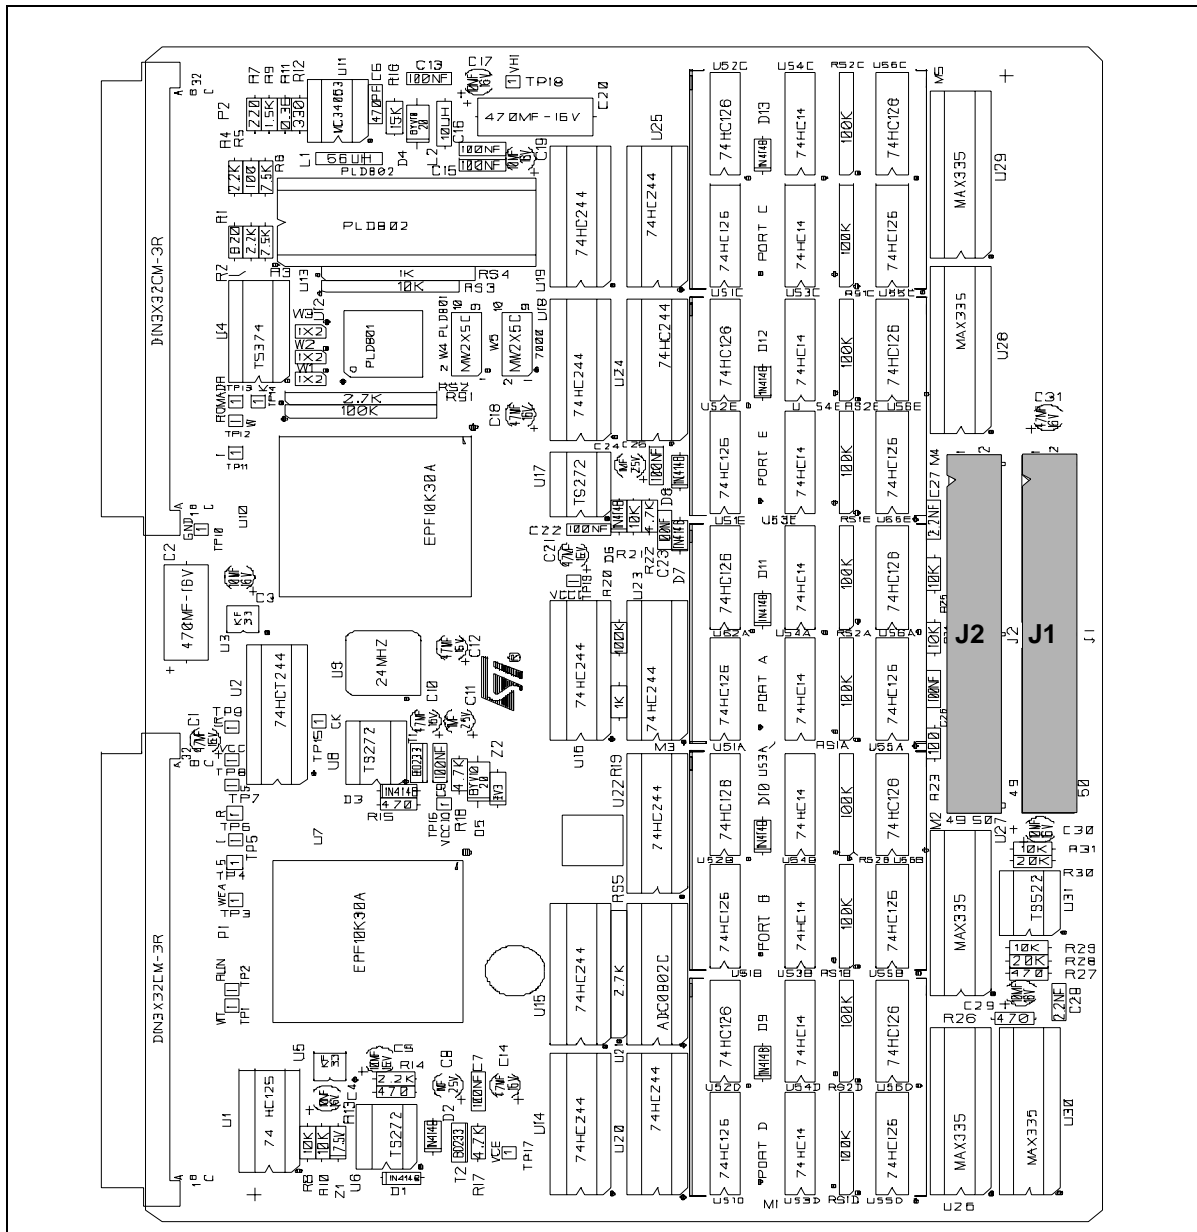

Figure 6: Schema of Dedication Board
- a Connect one flat cable to J1 on the probe board and J1 on the dedication board (see schema of dedication board in *Figure 6*).